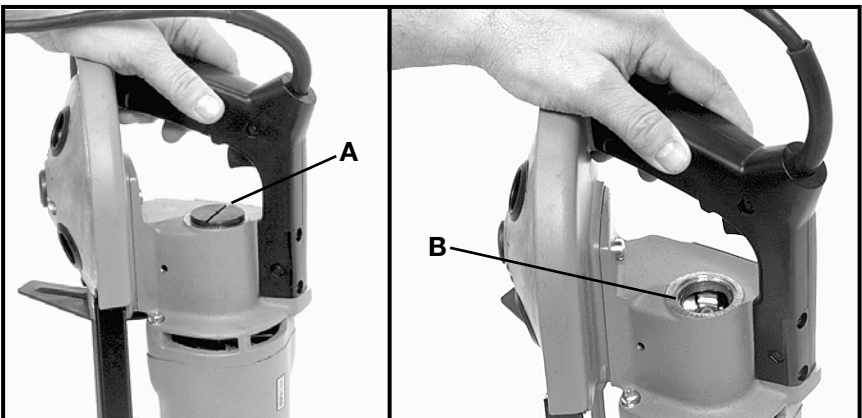

Fig. 7
2. Remove oil filler plug and gasket (A) Fig. 7.
4. With motor running, observe whether the lubricant is being carried over the top of the worm gear teeth (B) Fig. 7. If not, stop the motor and add a small amount of lubricant furnished with your saw.